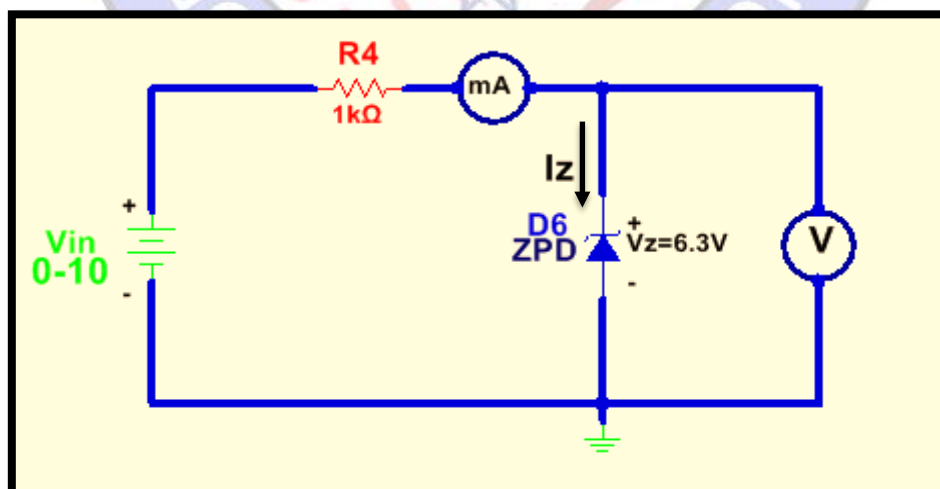

Figure 7: Practical Circuit Used to Obtain the Characteristics of the Zener Diode
1. Connect the zener diode test circuit shown in Fig.7. Increase the input voltage gradually in several steps from 0 to 15V, and record V_Z and I_Z according to Table 1.
Table 1: Recorded Data for the Circuit of Figure 7